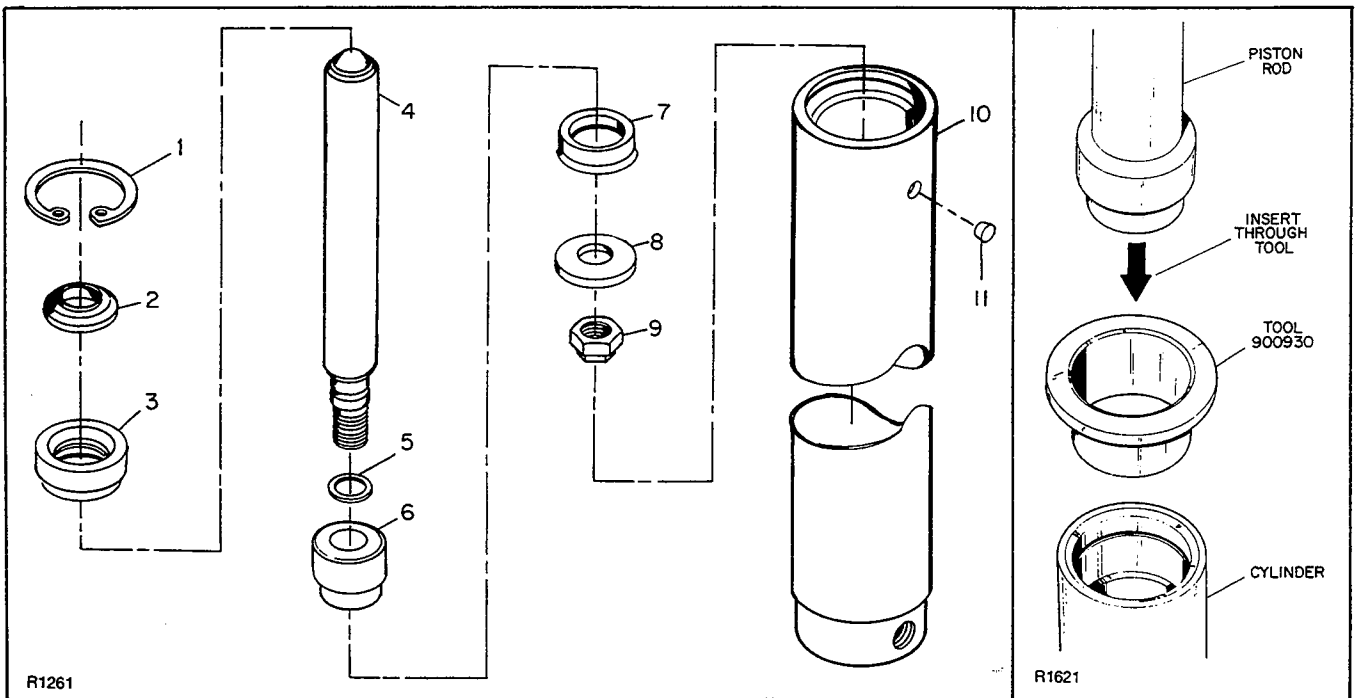

Figure 3-27. Lift Cylinder
c. Disassembly of Lift Cylinder. (Figure 3-27)
2. Unsnap and remove internal snap ring (1) from the cylinder tube weldment (10).
3. Extract the cylinder rod (4) and attached parts from the cylinder tube weldment.